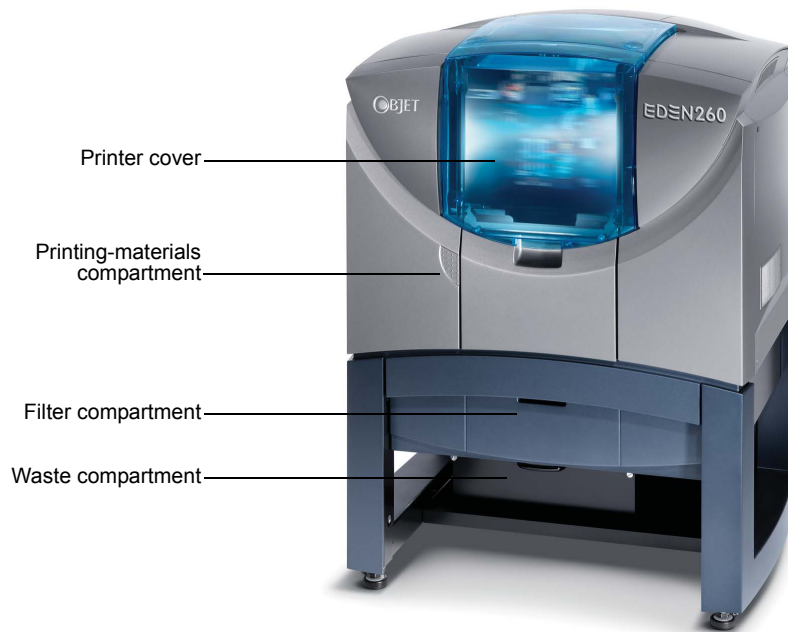

Figure 7-1: The Eden260 3-D Printer
1. On the front of the Eden printer (see figure 7-1), push the door of the printing-materials compartment to release and open it.